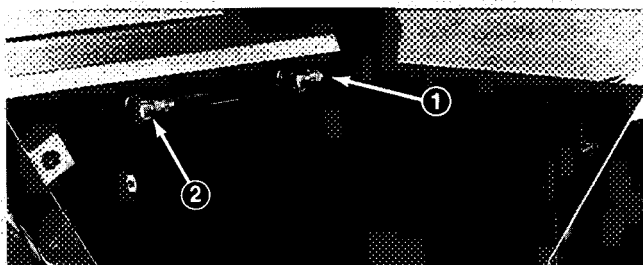

Figure 7
2. Slide battery partially out of battery compartment until terminals are accessible (Fig. 7).